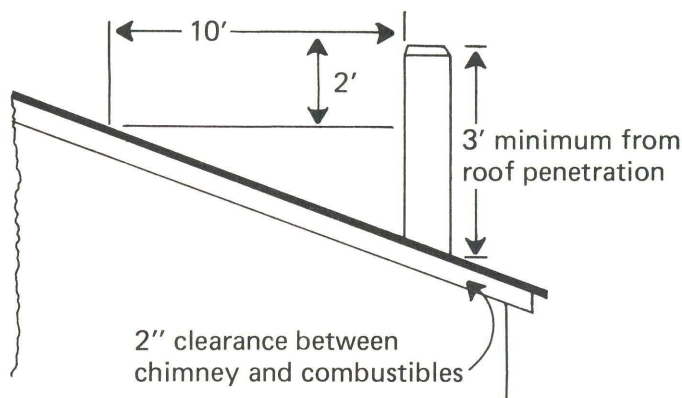

Fig. 2. To prevent downdrafts and fire from sparks, chimney height must be at least 2 feet above any roof surface within 10 feet horizontally.
- Chimney top should extend at least 3 feet above the highest point where it passes through the roof and at least 2 feet higher than any portion of the building within 10 feet (Fig. 2). If roof is flat, the chimney should be at least 3 feet above the roof.